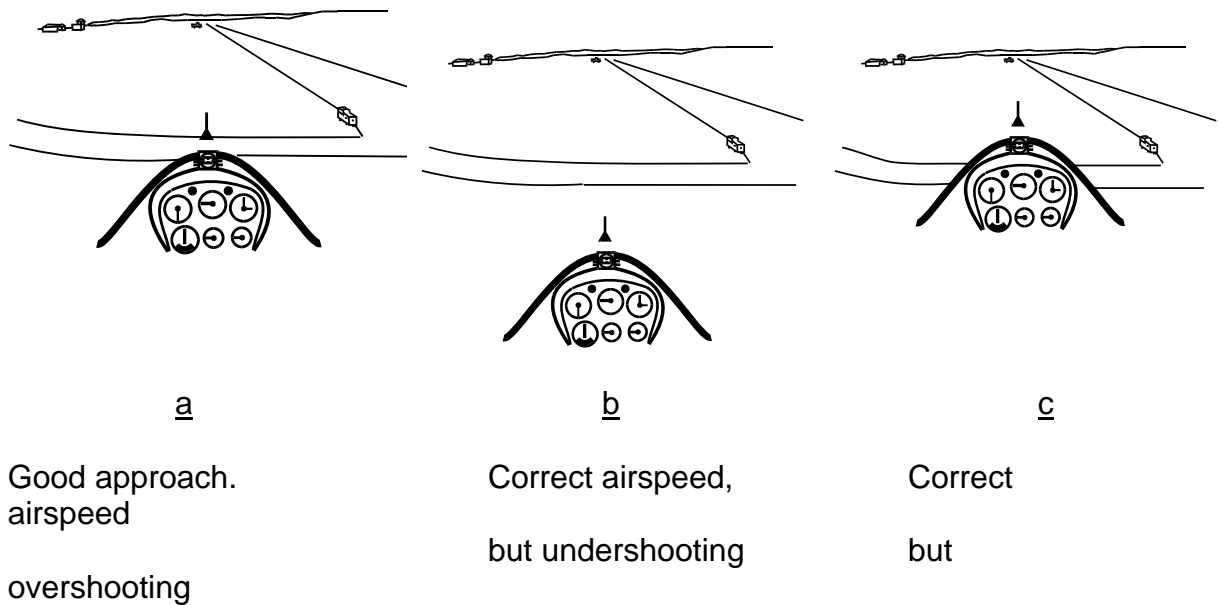

Fig 8. The Aiming point.
3. **Aiming point.** You will be taught to recognise and use an aiming point (see fig 8) to control your approach path. In Fig 8a the aiming point is correct, so providing the airspeed is correct, the approach is good. At 8b the aiming point has risen in the canopy showing that the aircraft is undershooting. This may be because you have too much airbrake, or the nose may be pitched too far down. In 8c the aiming point is lower than normal in the canopy so the aircraft is overshooting. This may be caused by too little airbrake, or the nose may be pitched too high.